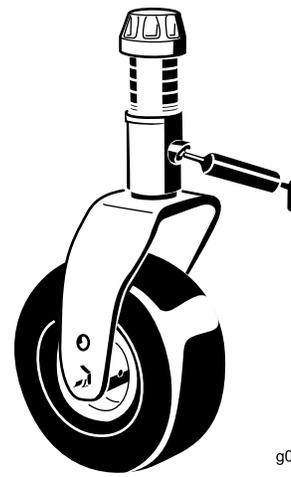

Figure 49
- 1 caster-fork-shaft bushing (Figure 49)